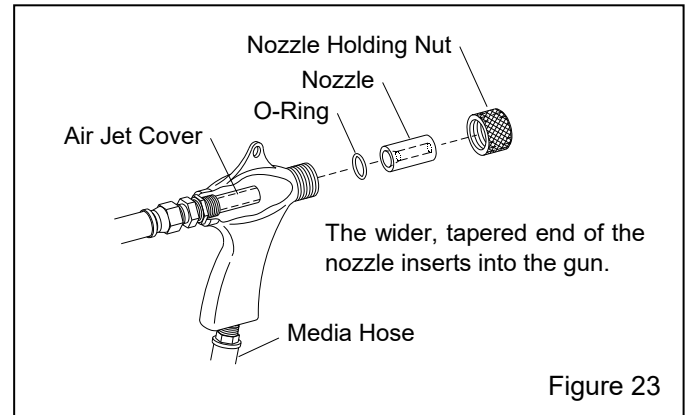

Figure 23
7.2 BNP® Gun and Hose Assembly – Figure 23